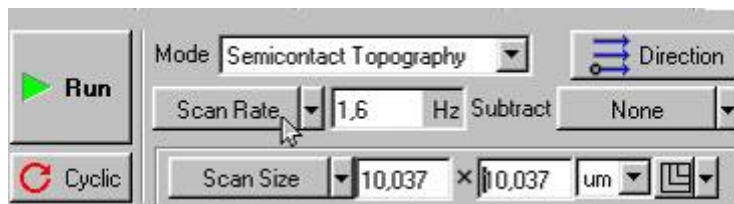
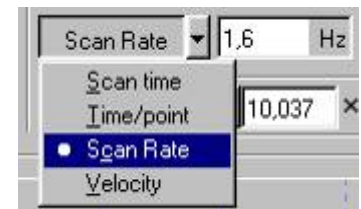

Fig. 4-31
Fig. 4-32
- *A time parameter selection button is located in the third string of the **SCAN** control panel, (Fig. 4-31), correspondingly, it displays the selected parameter (as shown in an example in Fig. 4-31 – **Scan Rate**). To set the necessary parameter, you need to press the given button and select the required parameter in the get opened menu (Fig. 4-32)*